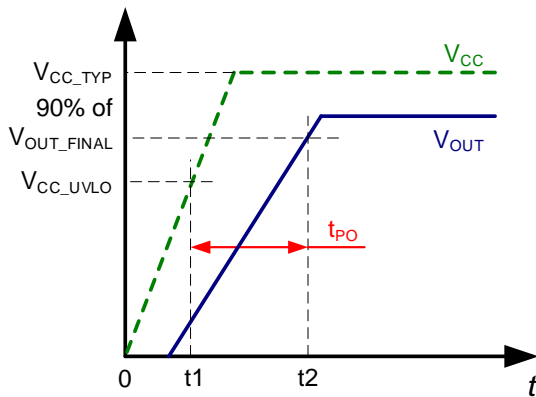
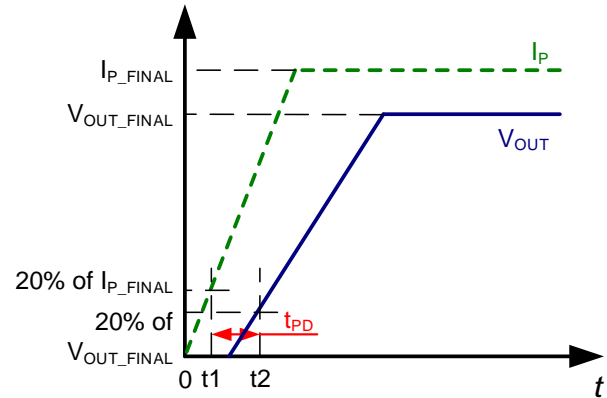
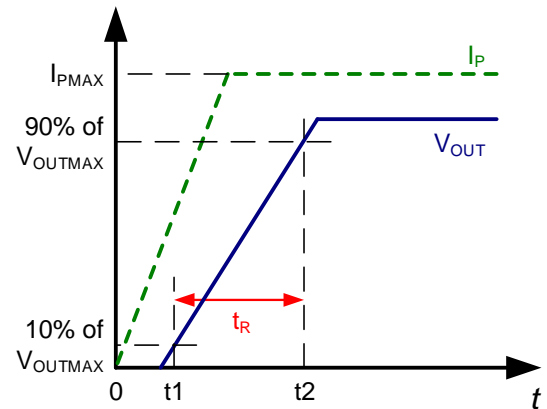

Figure 5: Power On Time (t_{PO})
Figure 6: Propagation Delay (t_{PD})
Figure 7: Rising Time (t_R)
2. t_2 : V_{OUT} settles to 90% of its final value under an applied primary current (see Figure 5).
2. t_2 : V_{OUT} reaches 20% of its final value, as it corresponds to the applied primary current (see Figure 6).
2. t_2 : The sensor's V_{OUT} reaches 90% of its full-scale value (see Figure 7).
| | | Updated Figure 5, Figure 6, and Figure 7 | 19 |